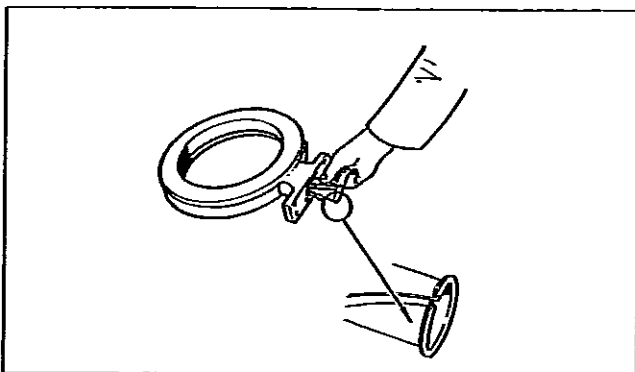

Fig. 14. Mounting the standard bearings
- Mount the bearings into the body (see Fig. 14).